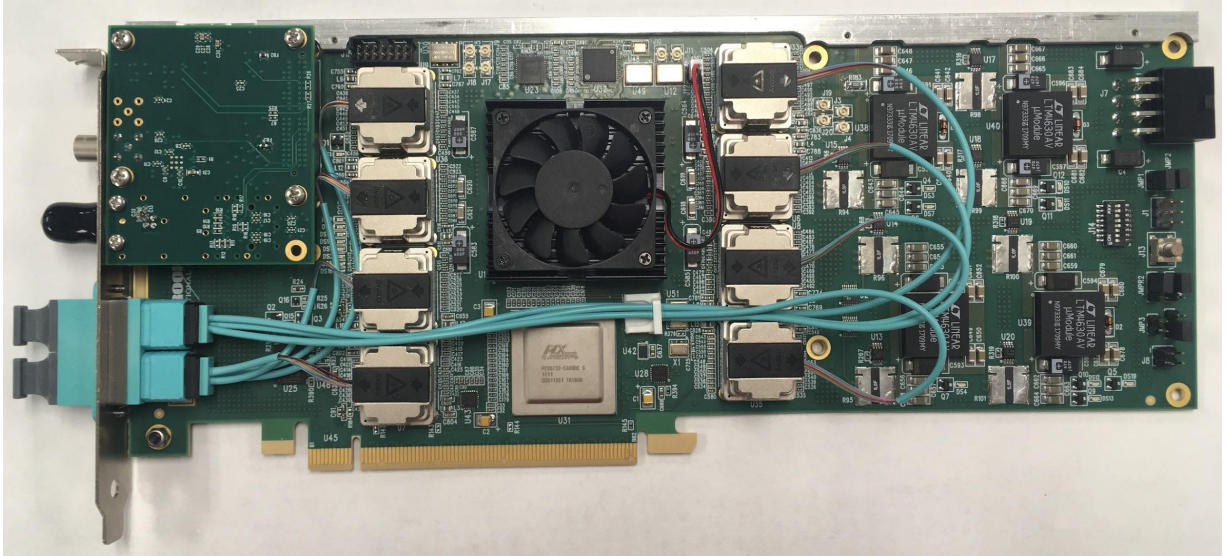

Figure 1: The FLX-712 card with fibres assembled.
- ATLAS TTC (Timing, Trigger and Control), with mezzanine shown in Figure 1. Main components on the card are: TC ORx, ADN2814 (clock and data recovery chip) and LEMO output for BUSY.